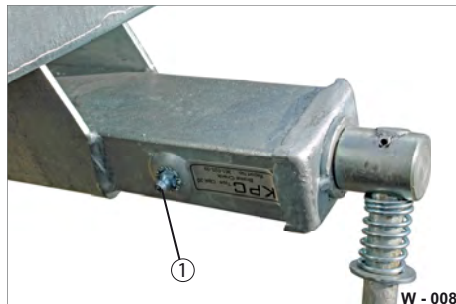

Fig. 8 Lubrication point
- ▶ Actuate the screw parking brake several times and carefully clean the lubrication points and the lubrication nipple (Fig. 8/1) with a clean, dry cloth.